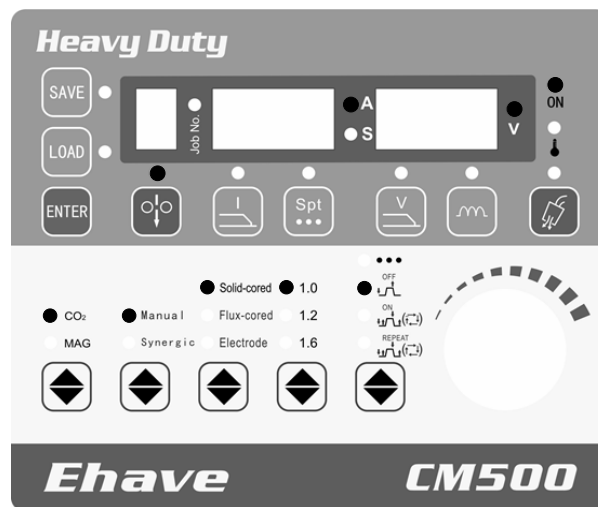

Figure 3-19 Setting wire inching
3. Figure 3-19 shows the control panel where the parameters have been set.